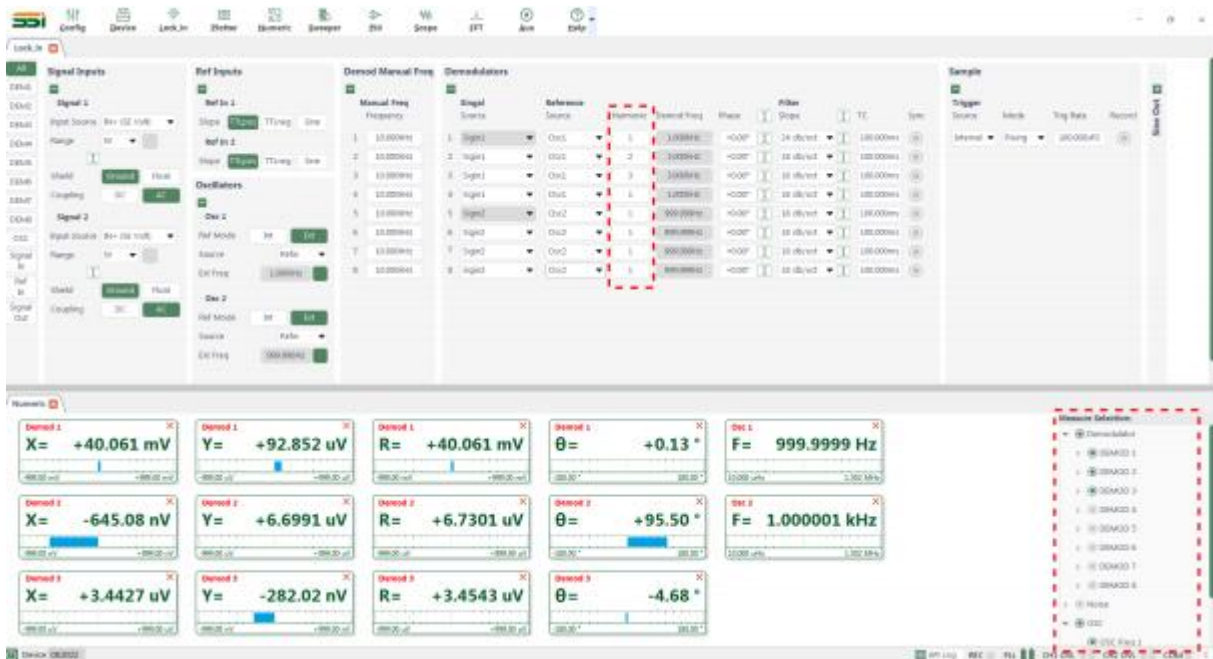

Figure 37. Other Modem Configuration Diagram
4. To configure another modem, within the red-boxed area shown in Figure 37, set the harmonic order of Modem 2 to 3 and enable the display of its measurement results. This allows simultaneous measurement of both the fundamental component and the third harmonic component of the input signal.